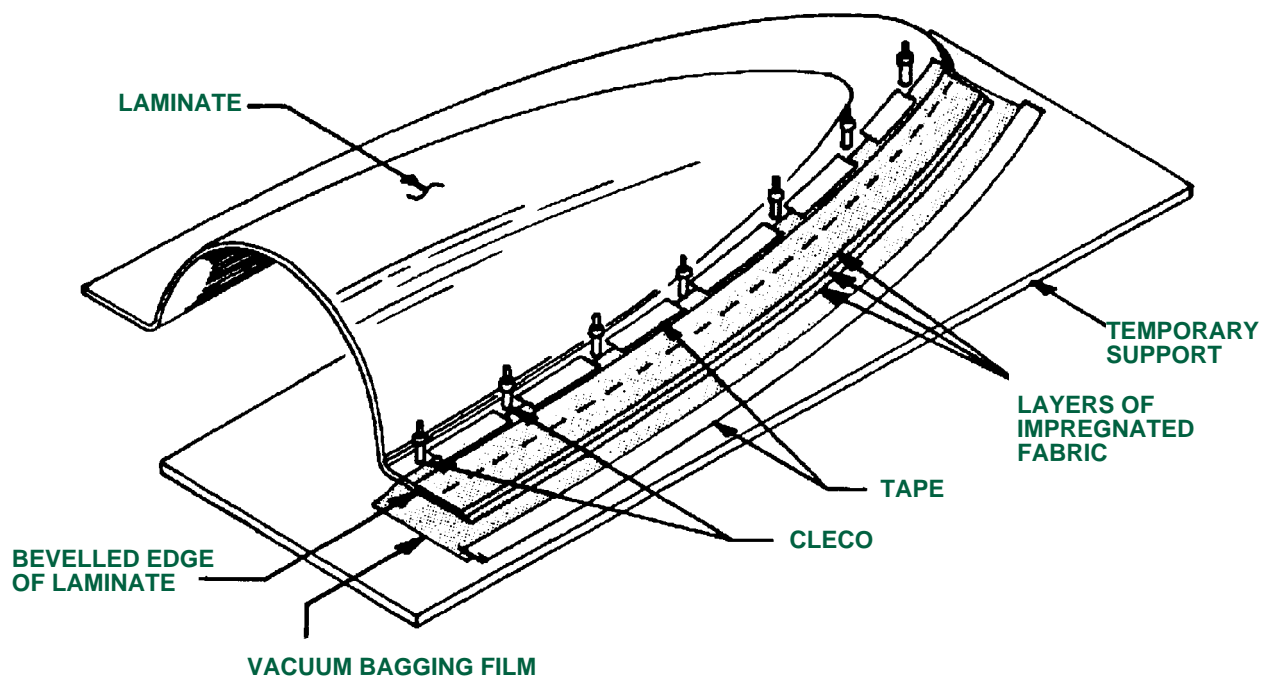

FIGURE 7 - COVERING WITH VACUUM BAGGING FILM
- Step 6. Tape the remaining longitudinal edge to the support (see Figure 7).
- Step 11. Tape the remaining longitudinal edge to the support (see Figure 7).